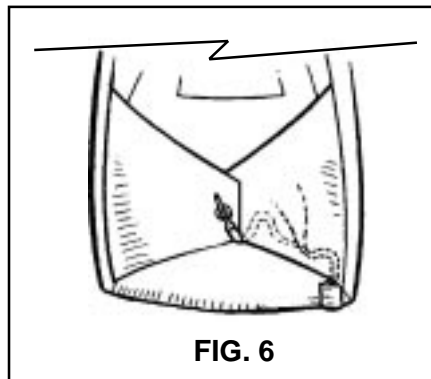

FIG. 6
6. Tuck the slack in the tape under the right side flap (FIG. 6).